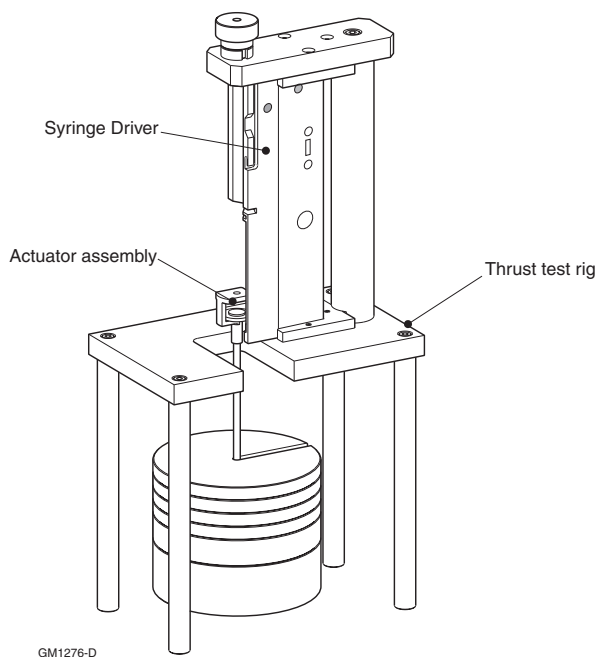

Figure 5-7 Thrust rig set-up
- Load unit onto the stand (*part number 0105-0651*). Set the actuator 50 mm from end of travel (see *Figure 5-7*).